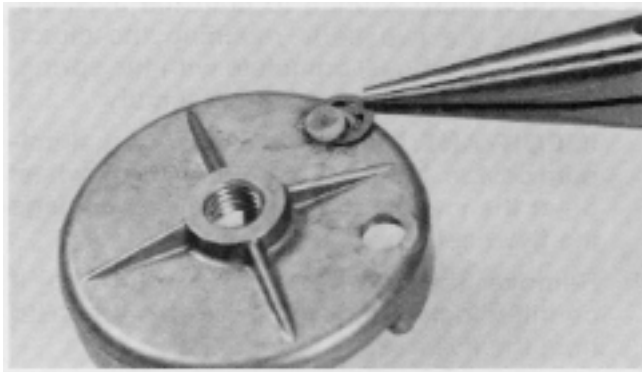

Figure 68
3. Remove the "E" clip that secures the pawl to the starter pulley. See Fig. 68.